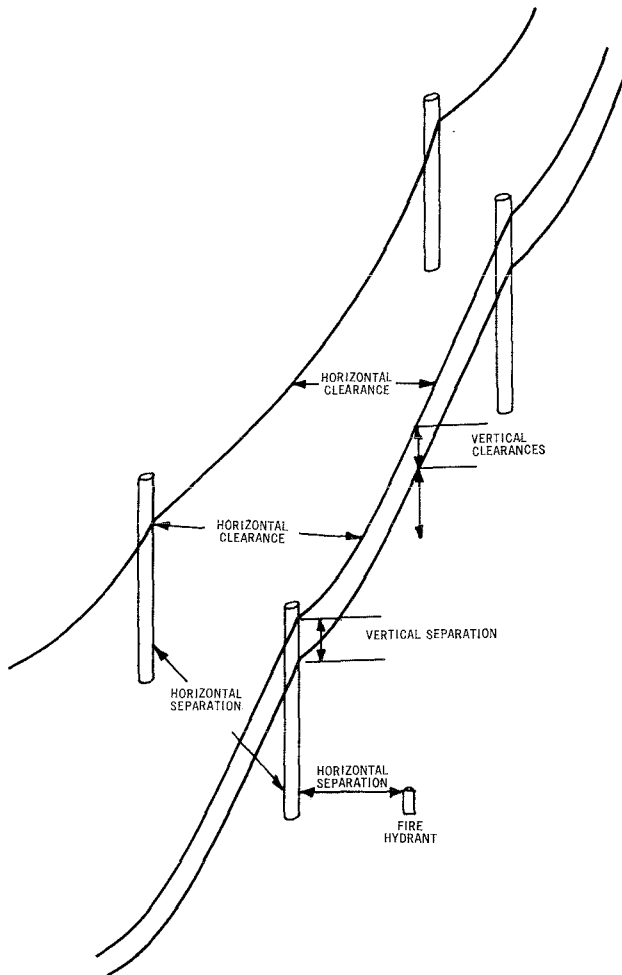

Fig. 1 — Illustration of Clearances and Separations
1.02 The term *clearance* as used in this section means the shortest distance existing between two objects, at least one of which is free to move, when there is no wind or ice. *Separation* is the shortest distance existing between two fixed objects (see Figure 1).